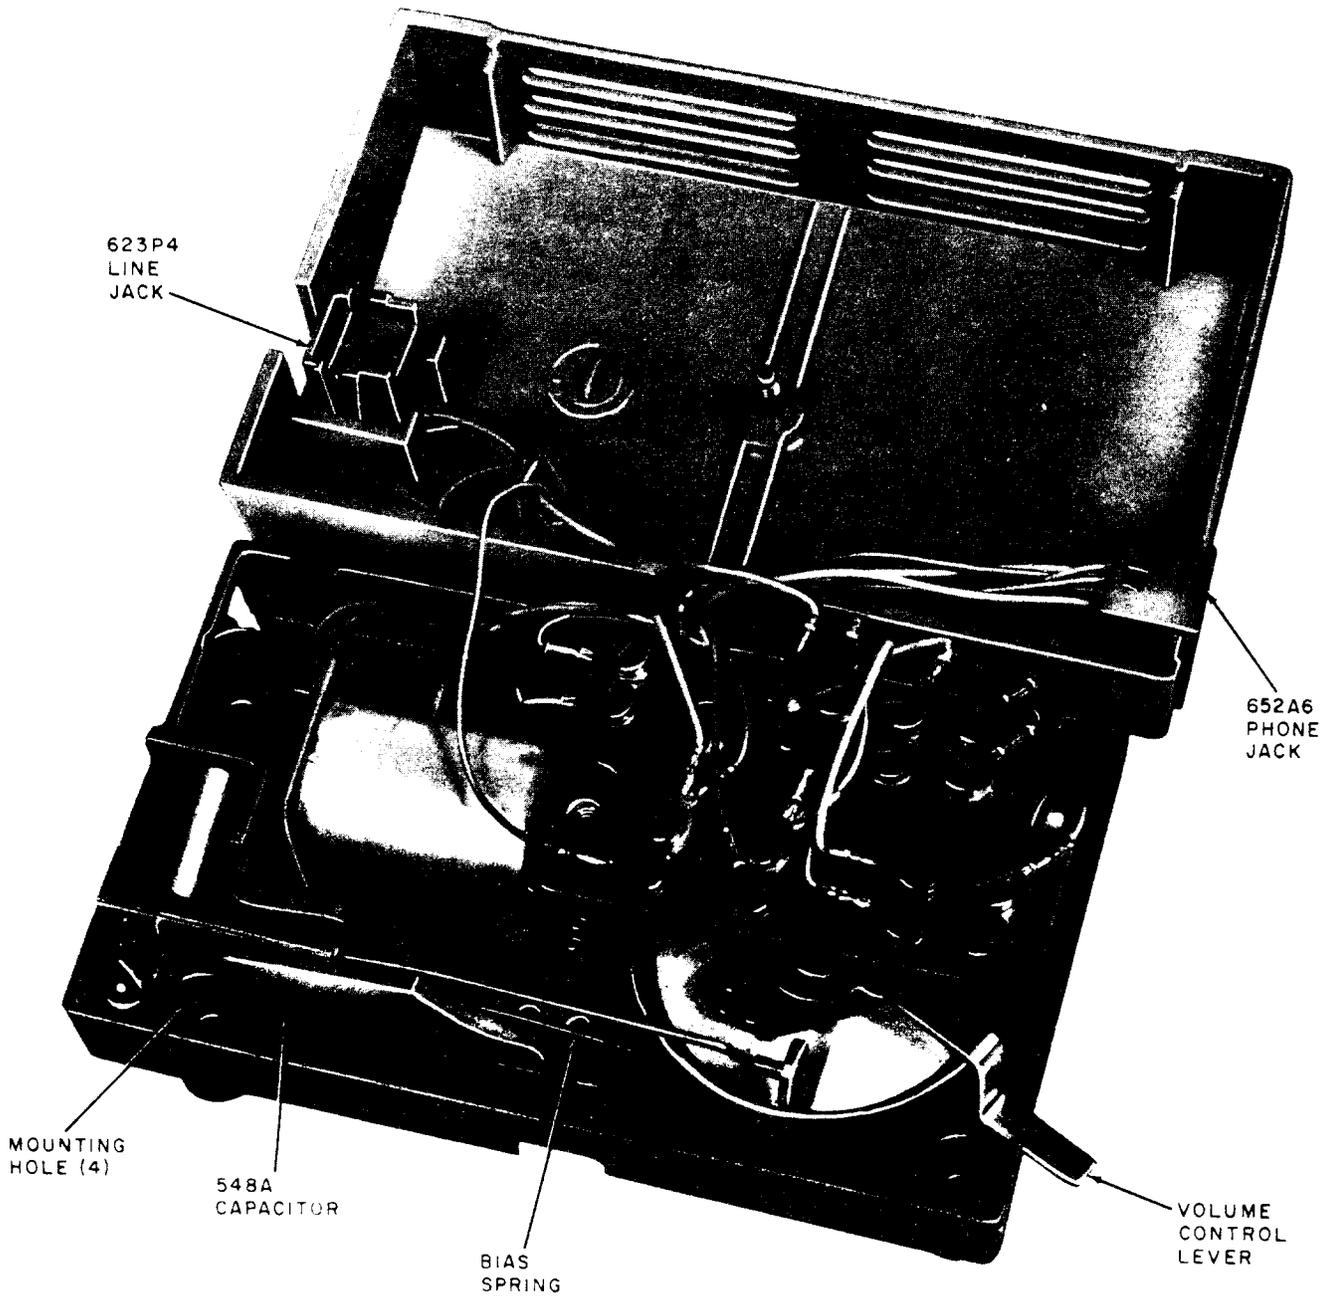

Fig. 7—E1CM Ringer, Interval View
2.02 The E1CM (modular) ringer (Fig. 7) is identical to the E1C except it has a 652A6 (**Phone**) jack and a 623P4 (**Line**) jack connected to an eight terminal connecting block.